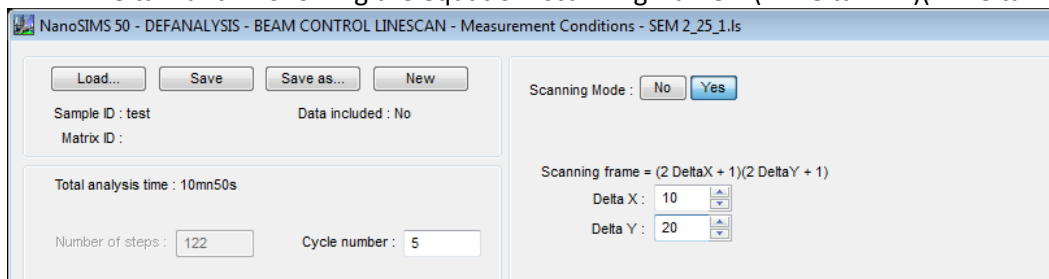

Figure 377: options of the Def Analysis in linescan mode
- A new Def Analysis window opens, allowing you to set the parameters for the line scan analysis (Figure 377). You can define the number of cycles over the line scan (cycle number). You can also choose to do the line scan